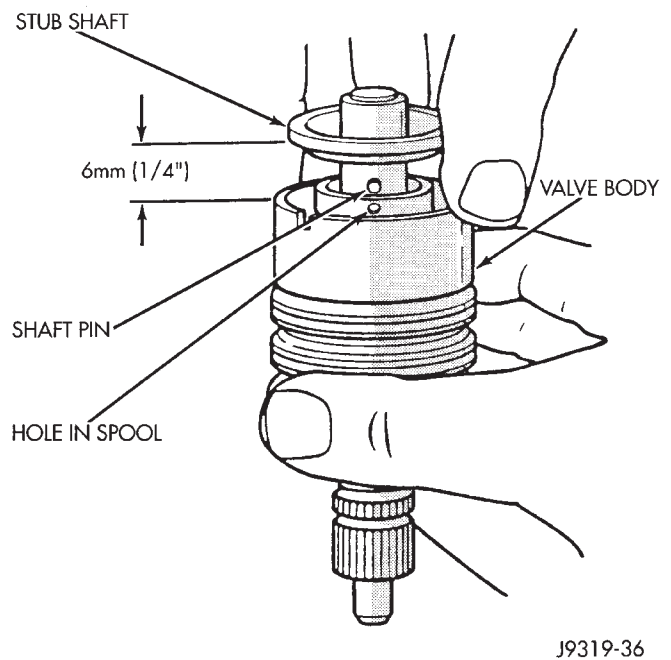

Fig. 25 Remove and Install Stub Shaft
(3) Remove stub shaft from valve assembly, if necessary.
- Pull cap and valve body and disengage stub shaft pin from hole in valve body (Fig. 25).
- (4) Remove valve assembly if necessary.